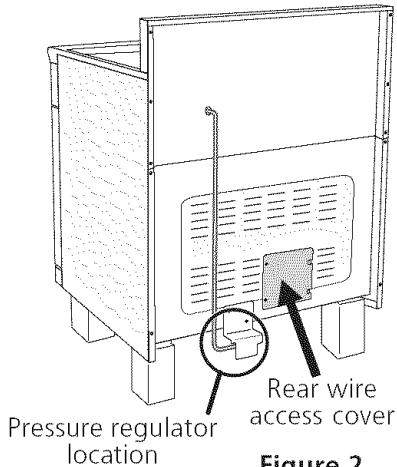

Figure 2
1. Remove the 2 screws at the lower end of the rear wire access cover, then remove the access cover to expose range terminal connection block (see Figure 2).
When shipped from the factory, this unit is designed to operate on 4" (10,16 cm) water column (1.0 kPa) Natural gas manifold pressure. A convertible pressure regulator is connected to the range manifold and **MUST** be connected in series with the gas supply line. The regulator is located as shown on figure 2 and it is accessible from front of the range.